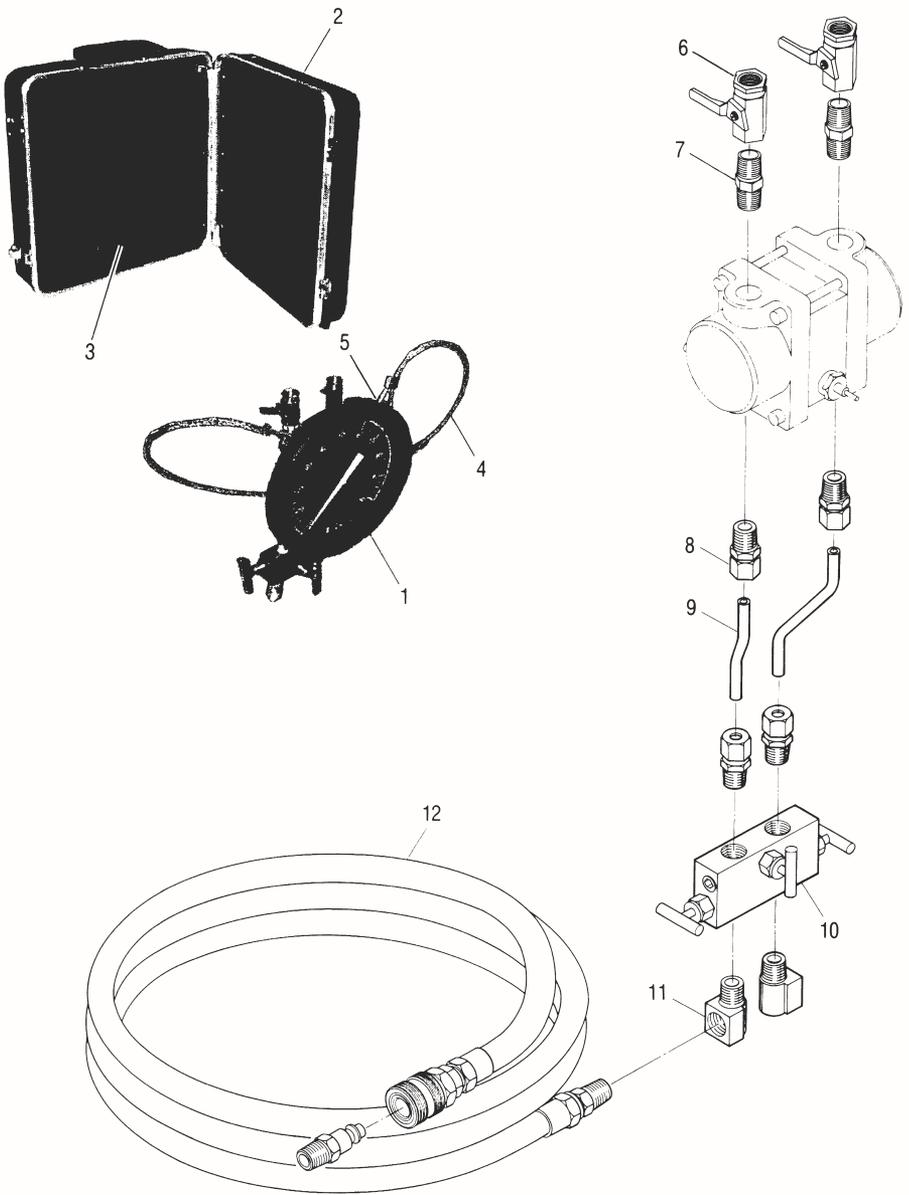

Figure 6-1. Model 247C Parts Identification
A. Lens and Scale Plate Removal of Model 247C (Refer to Figure 6-1 to identify the parenthetical numbers used in the following text.)
The component parts for the Model 247C are identified in Figure 6-1 and listed in Table 6-1.